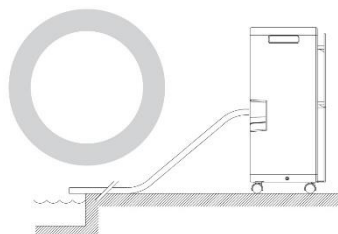

Fig. 2
3.6. Proper drainage of the condensation water when connecting the hose ! Make sure that the hose always has a slight slope (see fig. 2 and fig. 3).